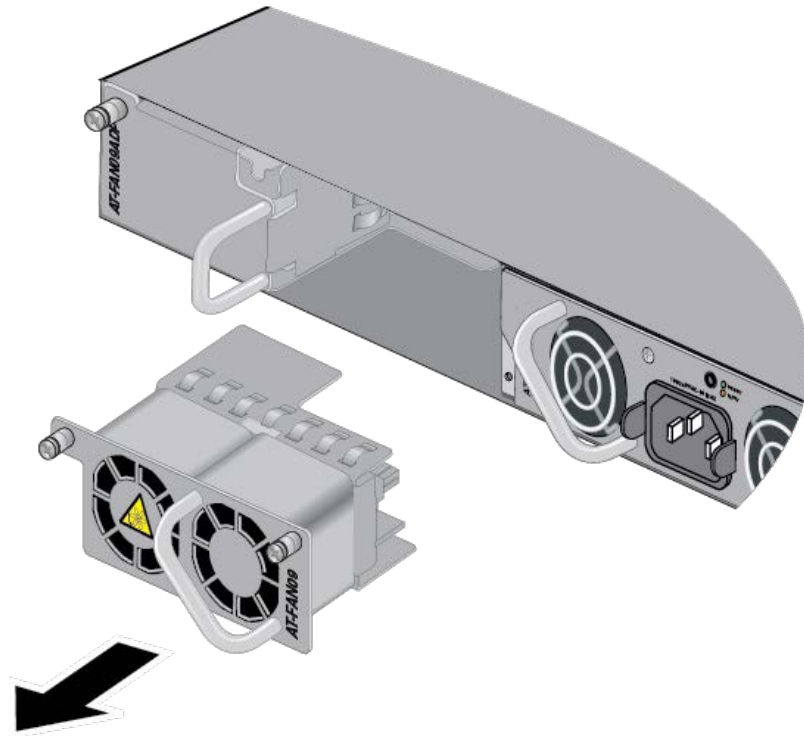

Figure 42. Removing the AT-FAN09 Module
4. Carefully pull the AT-FAN09 Module from the switch. Refer to Figure 42.